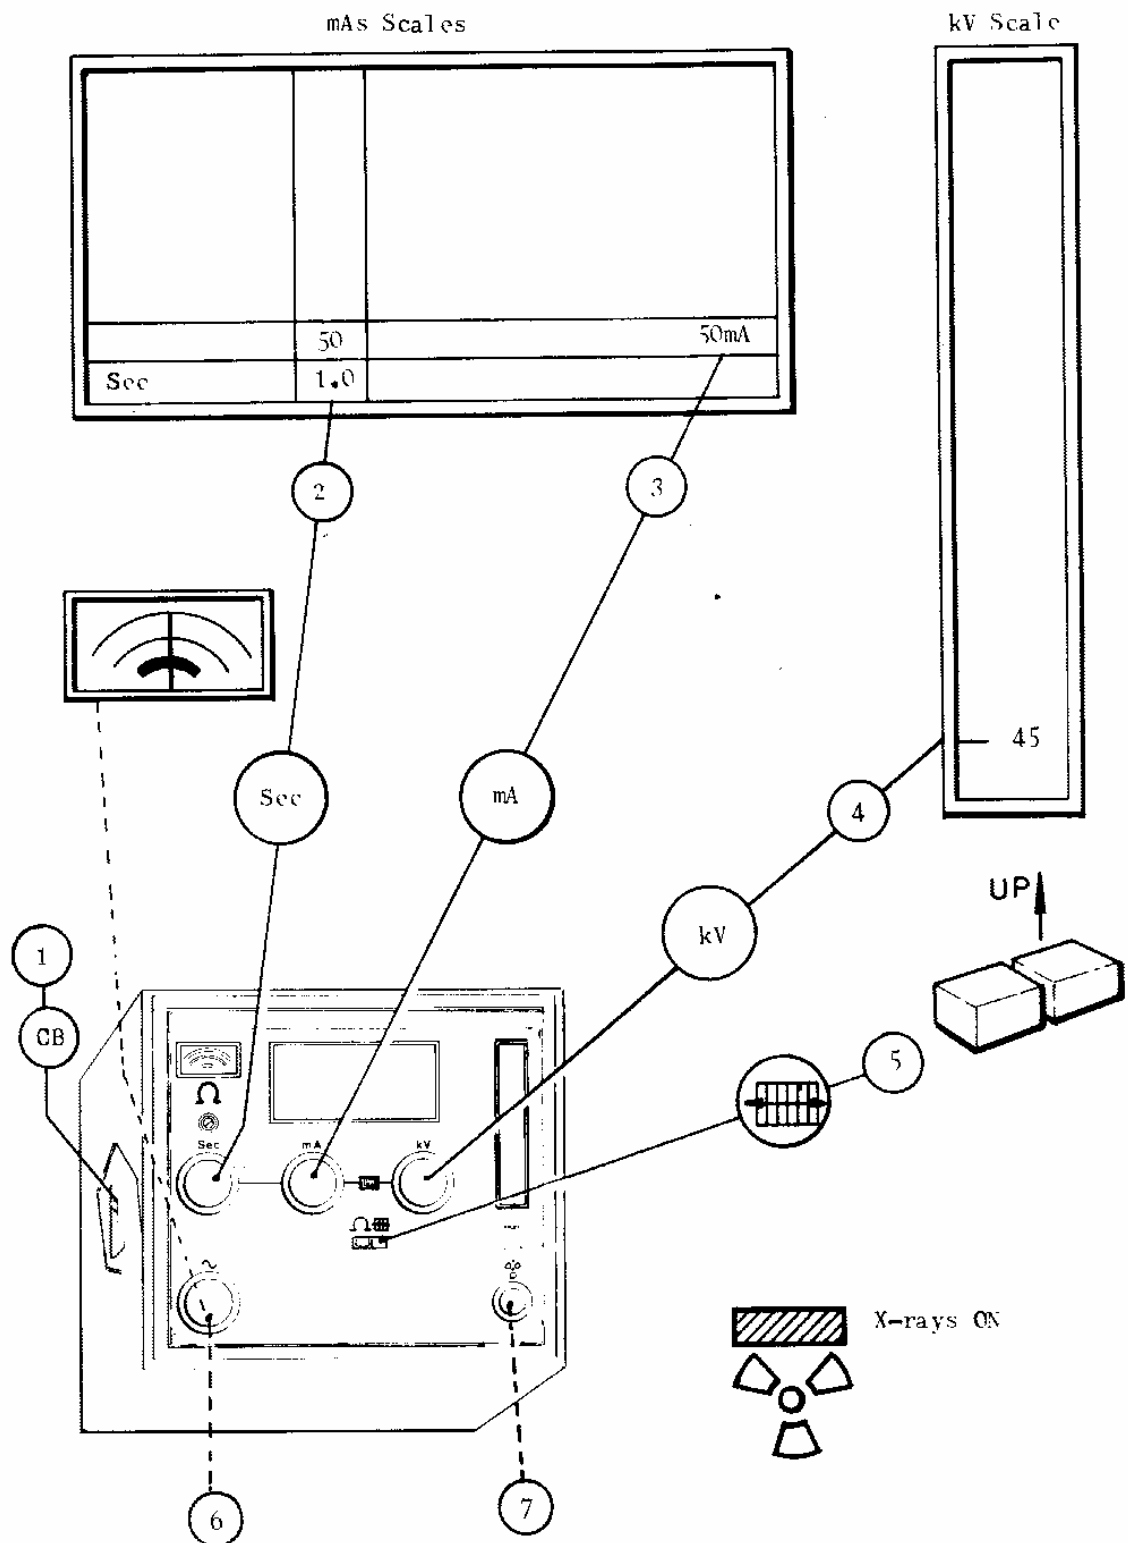

Fig 33 Preliminary Radiographic Exposure Settings
23. PRELIMINARY RADIOGRAPHIC EXPOSURE SETTINGS. Fig 33.
- ① Check that circuit breaker (CB) and wall isolator are OFF.
- ② Set timer control (Sec) to 1.0 Second.
- ③ Set tube current control (mA) to 50mA.
- ④ Set tube voltage control (kV) to 45kV.
- ⑤ Potter Bucky button  must be UP.
Refer to Fig 33, page 45 and switch ON circuit breaker (CB), then make an exposure by completing the sequence below.